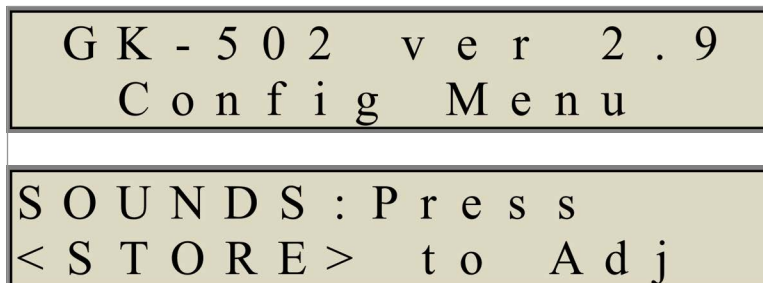

FIGURE 9: Configuration Menu Display Screens
1. Press **CFG** to enter the Configuration menu. The readout will display two screens (see Figure 9) in succession.